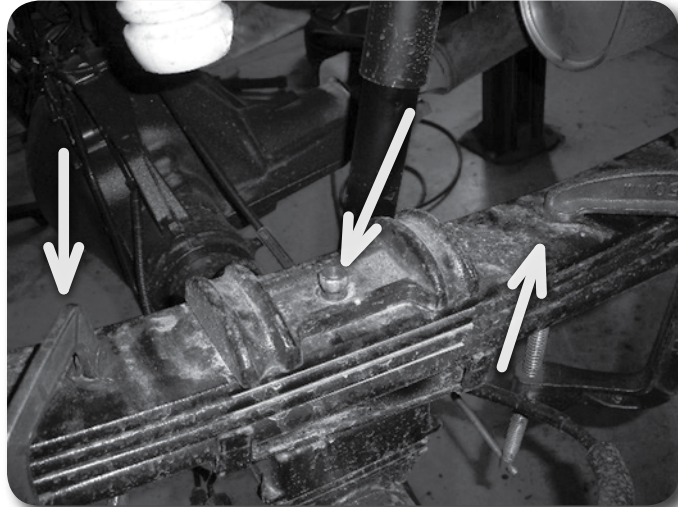

Figure 19
6. Disconnect the passenger's side spring u-bolts. Using two C-Clamps, clamp the leaf spring on each side of the top u-bolt plate. **Figure 19** Remove the center pin